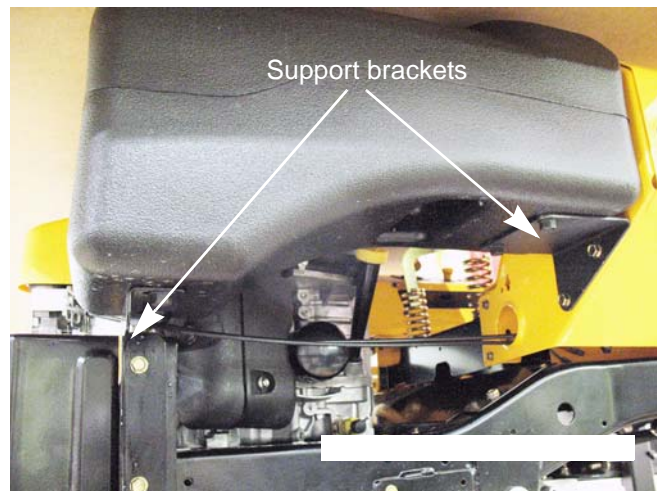

Figure 2.4
4. Remove the fuel tank by removing the four screws that hold it to the support brackets using a 9/16" wrench. See Figure 2.4.